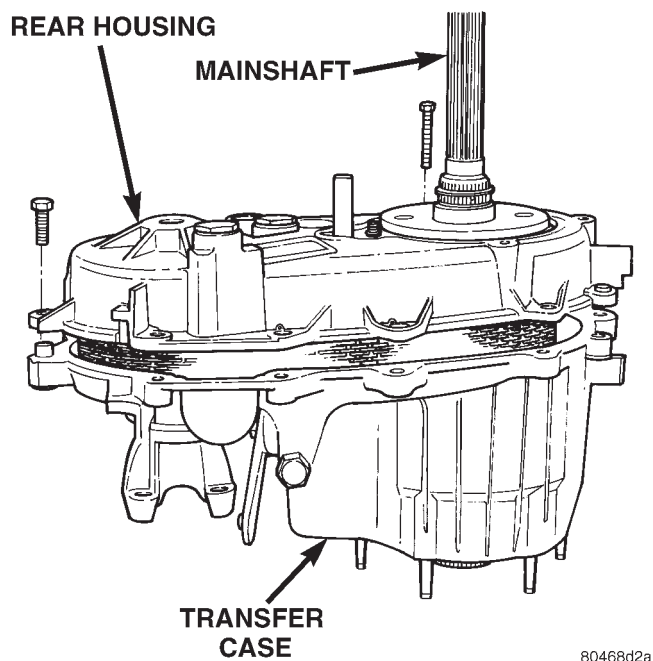

Fig. 34 Rear Case Removal
(15) Remove rear case (Fig. 34).